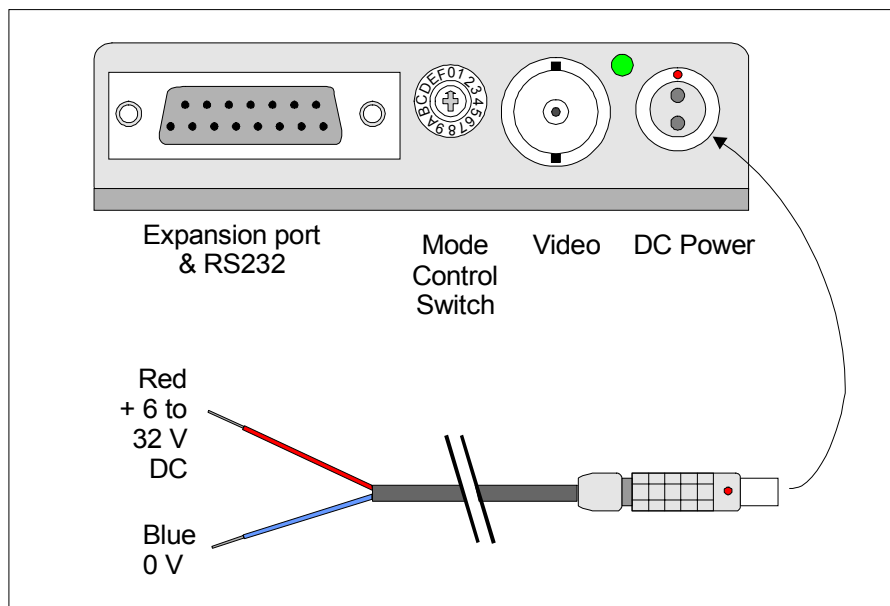

Figure 2: Gemini Interfaces / User Control
- 2.2 Ensure the encoder’s and decoder’s mode control switches are both set to “0” as shown in Figure 2.
- 2.3 Connect 7 to 32 V DC power source to the encoder and decoder to units using Lemo cable assembly provided, as shown in Figure 2. As a guide the encoder requires approximately 300 mA, the decoder 400 mA, at 12 Volts DC.